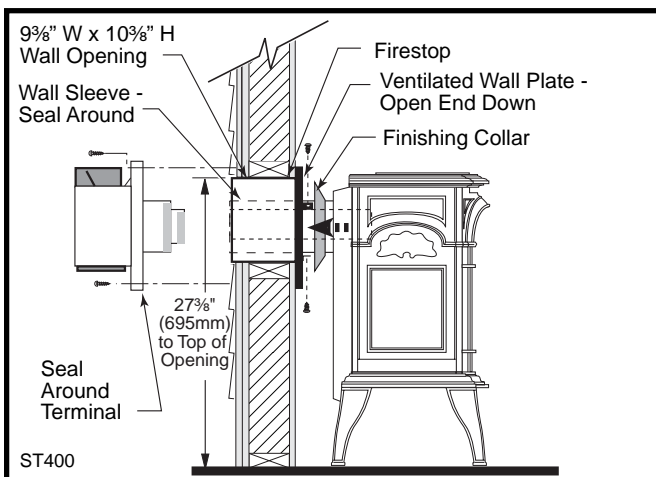

Fig. 25 SDVR with Rear Vent Kit 7TFERSK installation.
4. Install the Wall Firestop/Sleeve assembly into the wall cutout and fasten the firestop to the wall cutout framing members. (Figs. 25, 26)
7. Connect the pipe to the inner collar. Fasten the wall plate to the pipe with three sheet metal screws. Slide the trim collar up against the wall plate to cover the screws. (Figs. 25, 26)
8. Install the vent terminal. (Figs. 25 & 26) Guide the inner and outer vent termination collars into the adjacent pipes. Double check that the vent pipes overlap the collars by 2". Fasten the termination to the wall with the screws provided, and caulk the joint with weatherproof sealant.